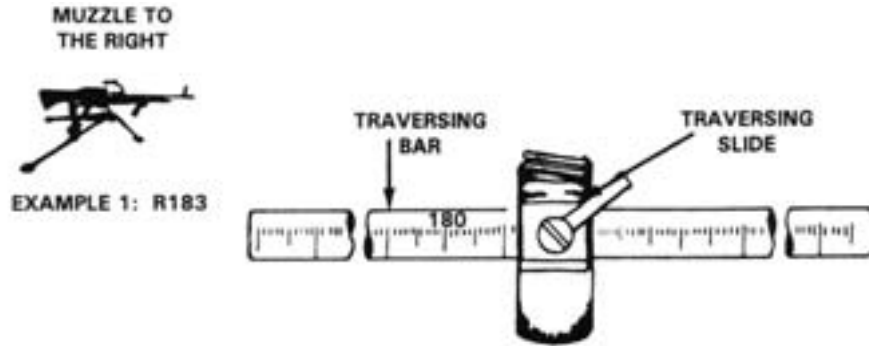

Figure 6-28. Direction Reading.
- Determine direction to the nearest mil is determined by reading the mil setting on the traversing bar and either adding or subtracting the mil setting on the traversing hand wheel. See figure 6-28 and paragraph 6501.